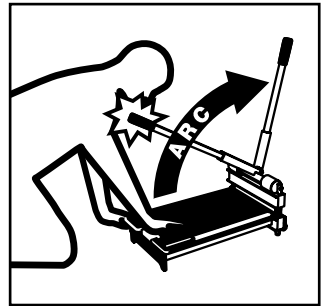

Figure 4
This cutter has a spring-loaded leverage handle that rises automatically with enough force to cause injury (Figure 4). Be aware of the motion of the leverage handle. As it rises, guide the leverage handle to its starting upright position to prevent it from slamming against its stop or impacting your body. In operation, kneel to the side of the leverage handle, keeping head and body out of its arc.
**PREPARING TO CUT:** Place the cutter with its two guide posts and rear stand flat on the floor. Make sure the cutter is stable and does not rock or tip. Make sure there is space around the cutter for handle travel (Figure 4). Check that the blade is sharp and free of burrs (to remove burrs, see MAINTENANCE below).